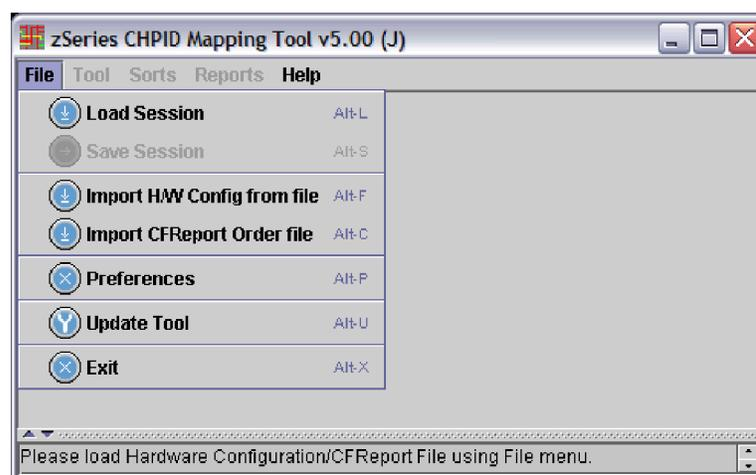

Figure 18. Selections under File
1. Click **File**. This displays selections as shown in Figure 18.